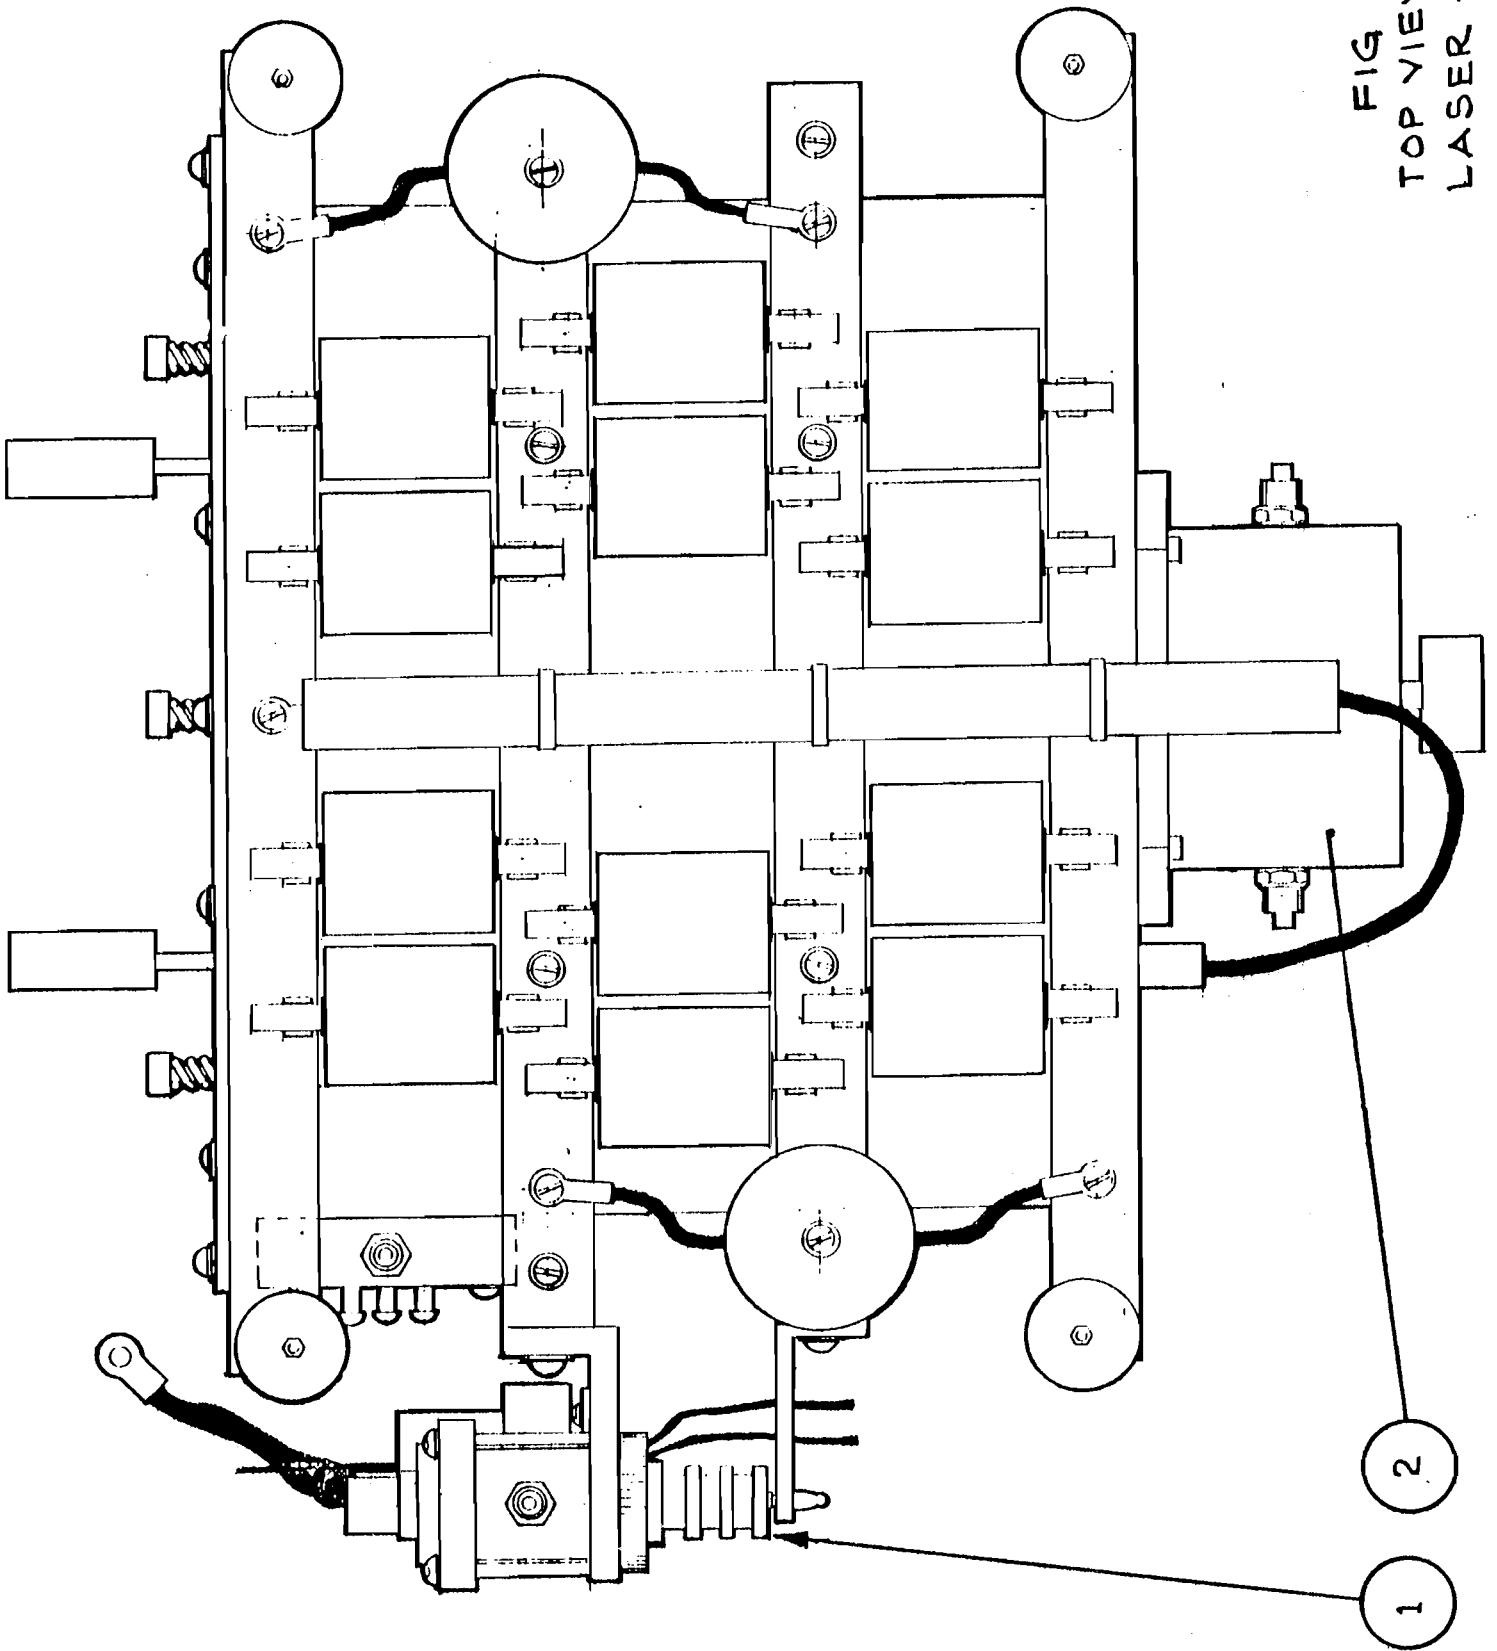

FIG 2
4. Referring to Fig. 2 the small spark gap is marked number "1".
Referring to Fig. 2 spark gap 2 is labelled number "2".